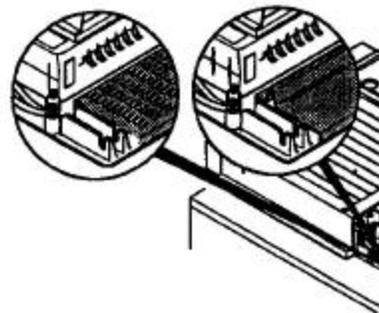

Figure 5
3. Undo the two Phillips screws on the strain relief (see Figure 5).